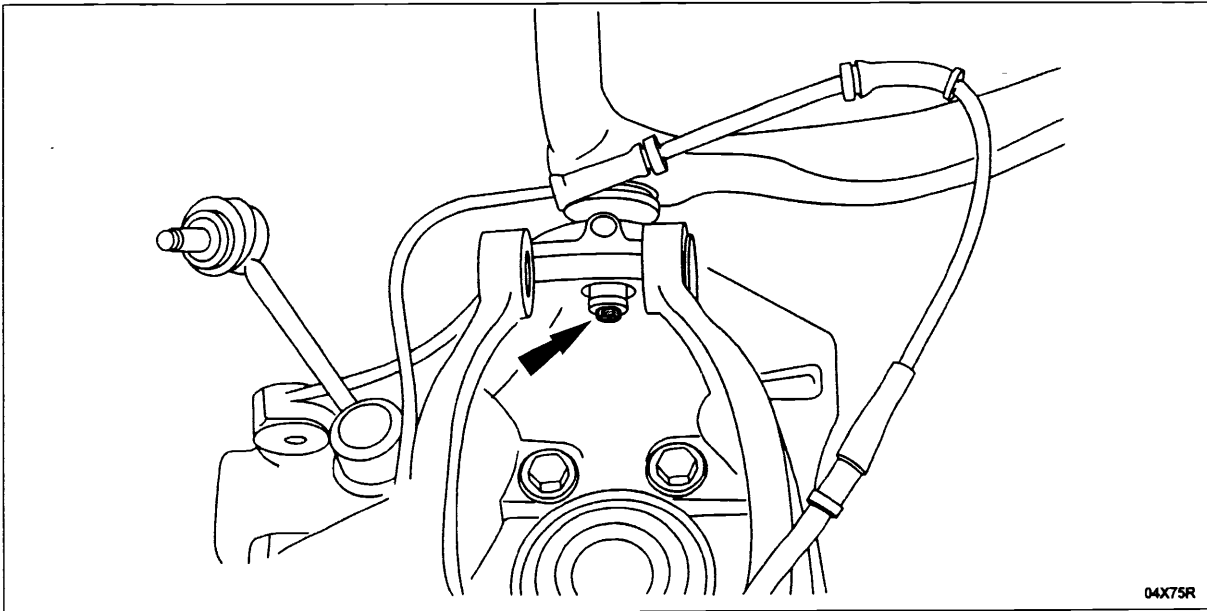

FIGURE 18
16. Remove and discard the upper control arm-to-knuckle ball stud nut. See Figure 18.